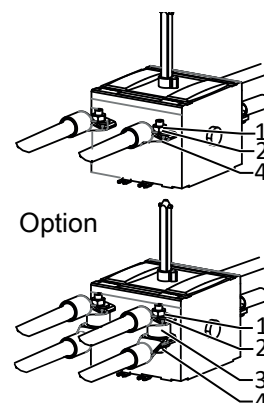

Fig. 30: Fit DC cables to switch
1. Fit the DC cables with a ring cable lug. When crimping, ensure that the ring cable lug is rotated in accordance with the final installation position. [See figure 30: Fit DC cables to switch ▶ Page 30]